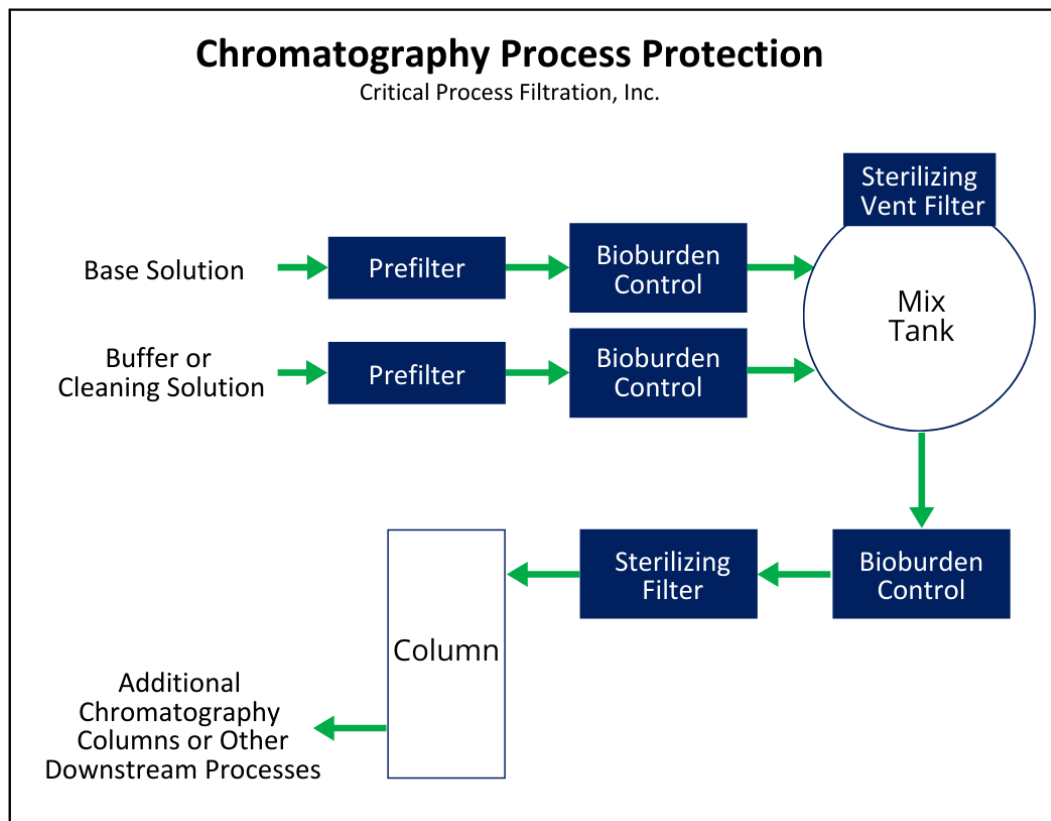

Figure 1: Chromatography Process Protection
*Figure 1* represents a generic system to feed and clean a single chromatography column. If a biopharmaceutical process requires multiple columns, there will be a series of these systems employed, each requiring its own filtration.
The “base solution” noted in *Figure 1* has already been processed through initial clarification steps such as centrifugation, but is likely to contain particulates, bacteria or other organic content that could affect column operation. The solution is filtered for particles and to reduce or eliminate any bioburden. This removes particulates and bacteria that might interfere with the column before entering a mix tank.
*Figure 1* shows typical filter types used in a chromatography system. Although only one of each filter type is shown in each process line, there may be issues unique to your process that will require additional filters. Proper filter selection and implementation will remove particulates and bioburden from process streams, optimizing chromatography column performance and product quality.